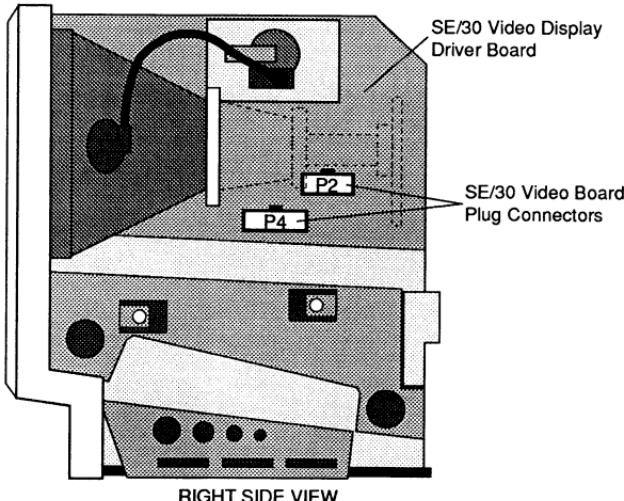

Figure 2-2
1. Carefully unplug the existing CRT connector card from the back of the video display tube (CRT). When unplugged, the connector card will be suspended in place by a six-wire power cable plugged into "P2" on the SE/30 video display (CRT) driver board and a ground wire connected to the SE/30 CRT frame screw (See Figures 2-2 and 2-3).
2. Insert cable-assembly plug J2 into connector P4 and cable assembly plug J3 into connector P2 (both) located on the SE/30 video display driver board as shown in Figure 2-2. Make sure the plugs "snap" into place correctly.